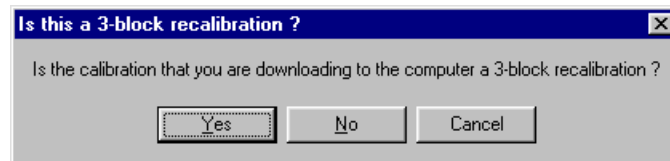

Figure 6–2. Recalibration Type Query
7. If the user clicks **<No>** on the preceding message box, the message box shown in Figure 6–3 is displayed.